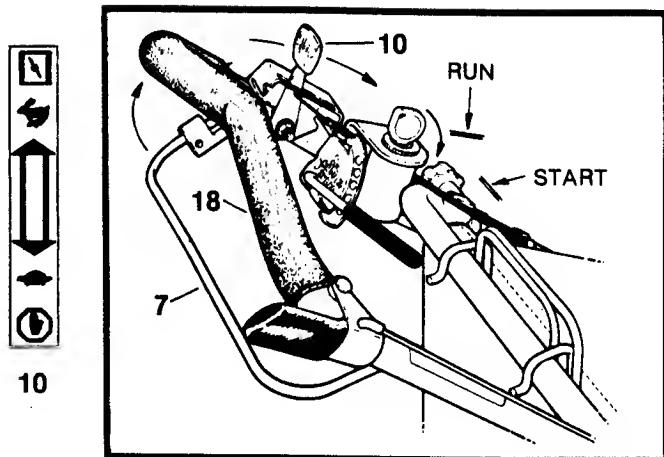

FIG. 4-ELECTRIC START
**ELECTRIC START:** The KEY/IGNITION switch (13) has two positions - RUN & START. The engine CAN NOT be stopped at the switch! Stopping the engine is accomplished by either releasing the BLADE CONTROL or by moving the ENGINE CONTROL to STOP position. Refer to FIG. 4.
1. Move ENGINE CONTROL lever (10) to START (CHOKE) position.
2. Hold BLADE CONTROL (7) firmly against UPPER HANDLE (18) - otherwise the engine will NOT start.